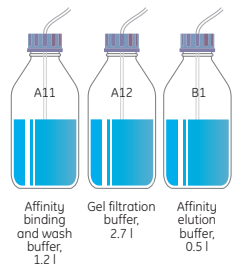

Fig 1. Buffer inlets and maximum volumes needed, see ÄKTA 3D plus Kit User Manual for details.
- Place buffer inlets as shown in Figure 1 and make sure your system is prepared as described in the “System preparations” cue card.